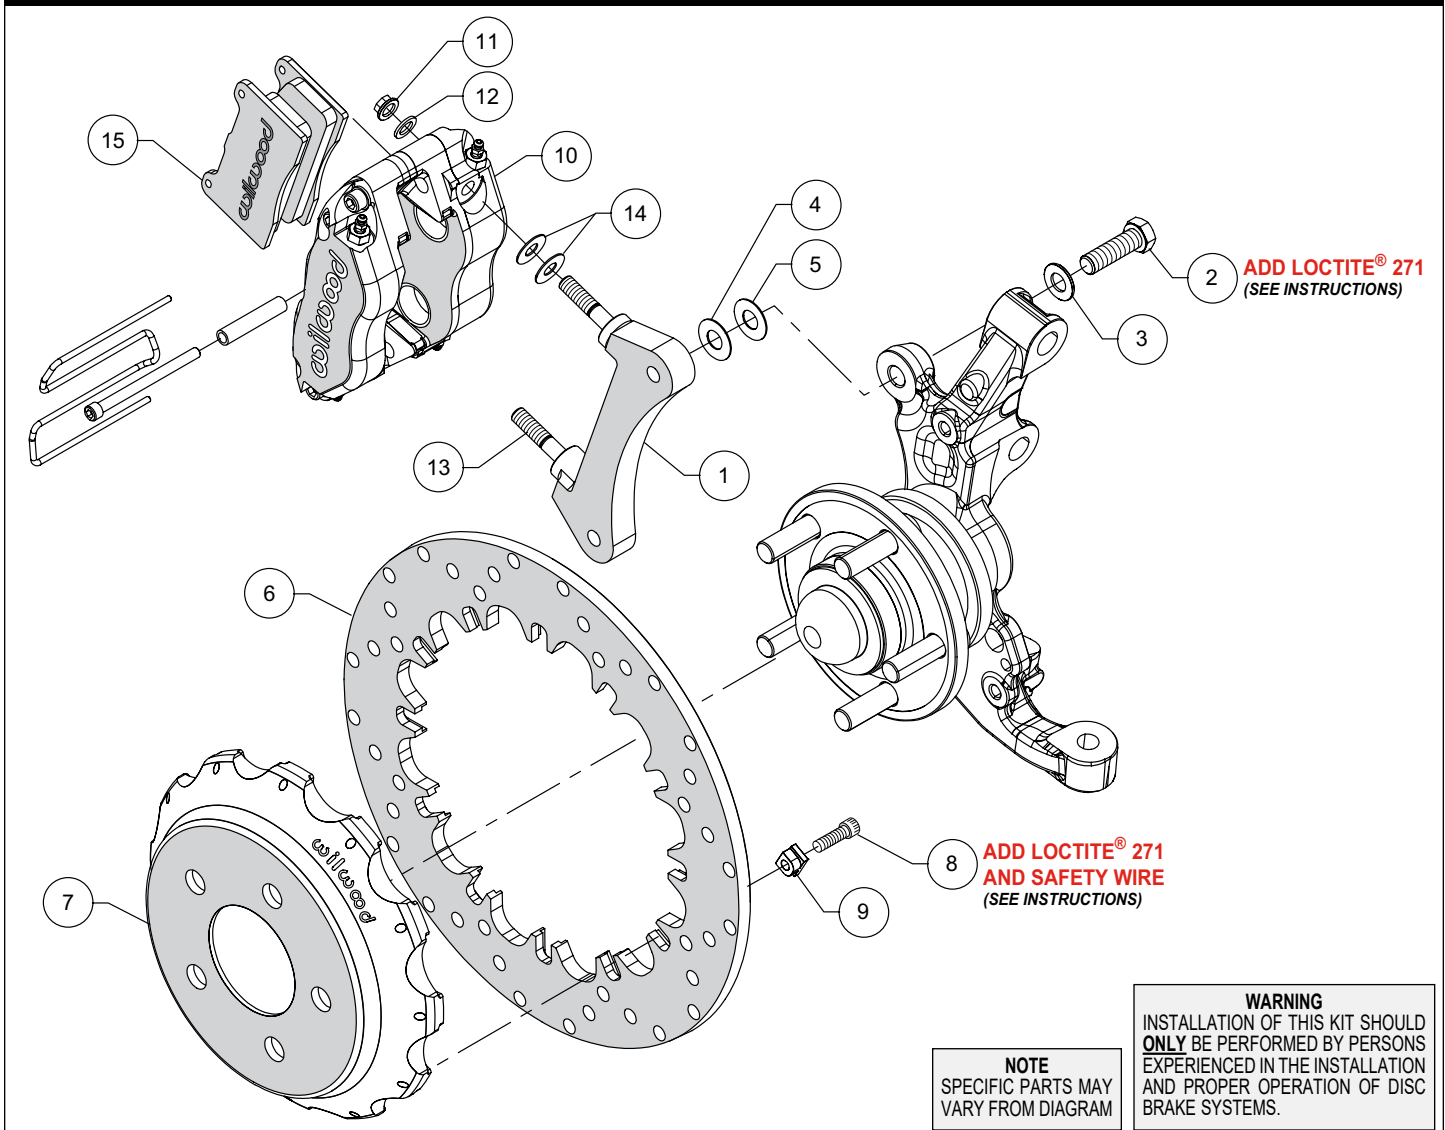
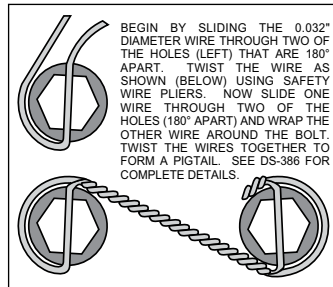

Figure 1. Typical Installation Configuration
Figure 3. Safety Wire Diagram
NOTE: Numbers in parenthesis refer to the parts list and Figure 1 on the preceding pages.
- The caliper mount bracket (1) should initially be installed with clean, dry threads on the mounting bolts. Orient the bracket, as shown in Figure 1 and Photo 1, and install using bolts (2) and washers (3). Initially place one .033" thick shim (4) on each bolt between the bracket and upright, Figure 1. Temporarily tighten the mounting bolts. **NOTE:** The bracket must fit squarely against the mount bosses on the upright. Inspect for interference from casting irregularities, machining ridges, burrs, etc. Later, after the caliper alignment has been checked, the mount bolts will be secured using red *Loctite*® 271.
- Orient the rotor (6) and the hat (7) as shown in Figure 1 and Photo 2. Attach rotor to hat using bolts (8) and t-nuts (9). Apply red *Loctite*® 271 to the bolt threads and torque to 120 in-lbs using a criss-cross pattern. The bolts must be safety wired using standard 0.032 inch diameter stainless steel safety wire as shown in Figure 3. Refer to Wilwood's data sheet DS-386 (available at www.wilwood.com/Pdf/DataSheets/ds386.pdf) for complete safety wire installation instructions.
- Initially place two .035" thick shims (14) on each stud (13) as shown in Figure 1 and Photo 4. Mount the caliper (10) onto the bracket (1) using lock nuts (11) and washers (12), Figure 1. Temporarily tighten the lock nuts and view the rotor through the top opening of the caliper. The rotor should be centered in the caliper, Photo 5. If not, adjust by adding or subtracting shims (4 and/or 5) between the bracket and the mounting bosses. Once the caliper alignment is correct, remove the bracket mounting bolts one at a time, apply red *Loctite*® 271 to the threads, and torque to 60 ft-lbs.
- Insert the brake pads (15) into the caliper with the friction material facing the rotor (6), as shown in Figure 1 and Photo 6. Check that the top of the brake pad is flush with the outside diameter of the rotor, Photo 7. If not, adjust by adding or subtracting shims (14) between the caliper and the bracket. After the caliper pad height is set, torque the caliper lock nuts (11) to 30 ft-lb. Secure the pads in place using the pad clip retainer as well as the center bridge pad retainer tube, bolt, and locknut, Photo 8. The locknut should be snug without play in the bolt or tube. Be cautious not to over tighten.